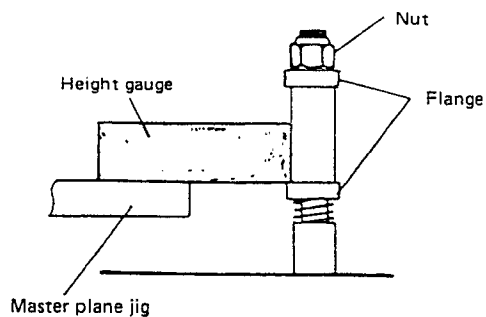
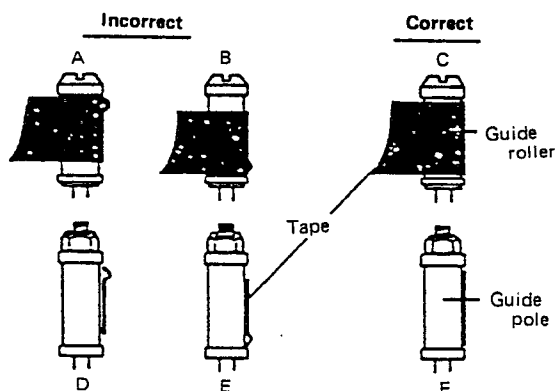

Fig. 19 Guide pole height adjustment
Fig. 23 Guide roller and guide pole
1. Set the master plane jig as shown in Fig. 19.
2. Set the height gauge on the master plane jig as shown in Fig. 19.
3. During Loading, Play and Unloading, observe the tape at the supply and take up guide rollers and guide poles. Confirm absence of curling, wrinkling, etc., as shown in Fig. 23.
2. Use a metric nutdriver to turn the supply guide pole to align the upper flange of the guide pole with the upper edge of the tape as shown by F of Fig. 23. However, this adjustment must be performed so that at the same time, the upper flange remains within ± 0.5 mm of the height adjusting jig portion shown in Fig. 19. If there is a large discrepancy, check the height of the supply reel disk, tension pole and other mechanical components.